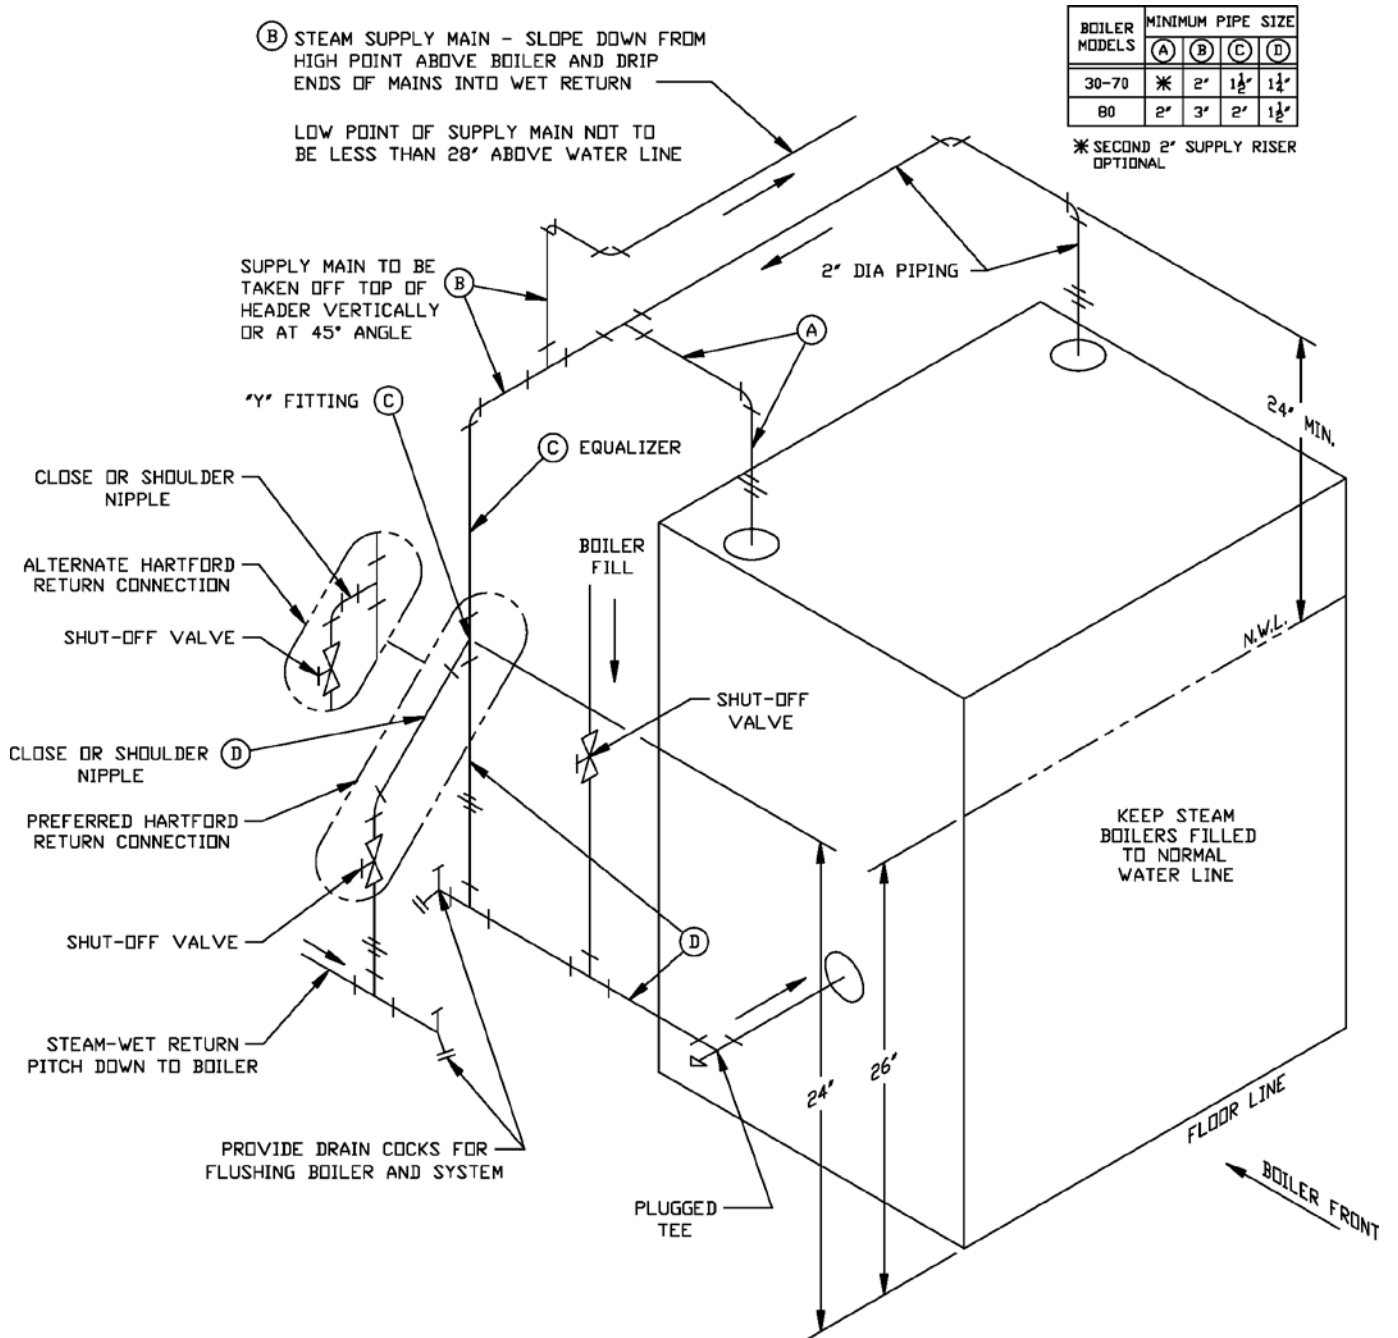

Figure 7: Recommended Boiler Piping for Gravity Return
F. Connect system supply and return piping to boiler. See Figure 7. Also consult I=B=R Installation and Piping Guides. Maintain minimum 1/2 inch clearance from hot water piping to combustible materials.